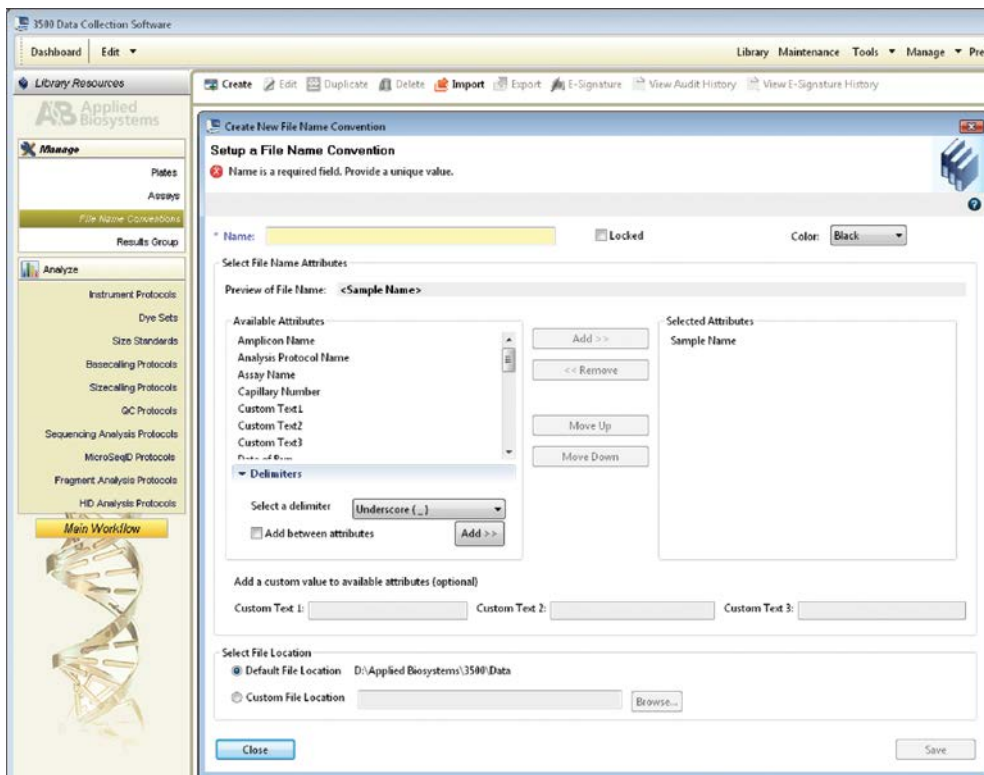

Figure 7. The Create New File Name Convention window.
- 2.e. To create a new File Name Convention (Figure 7), navigate to the Library. Select “File Name Conventions”, and then select “Create”. Alternatively, a previously created File Name Convention may be used. Select the File Name Attributes according to your laboratory practices, and save with a descriptive name.